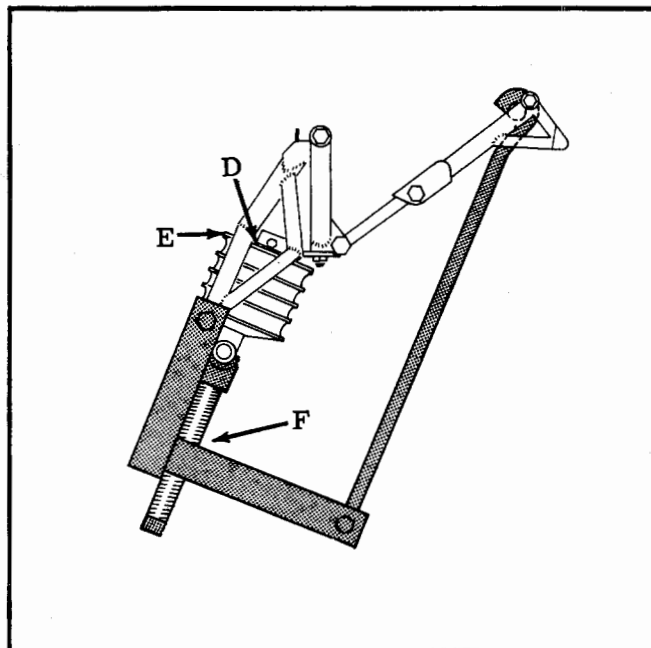

Figure 5-16. Nose Gear Shock Disc Replacement
a. Check for gap between retaining collar (D), Figure 5-16 and top retaining plate (E). Top retaining plate must be in contact with retaining collar.
b. Replace shock discs if gap is found. Use shock disc replacement tool (F),